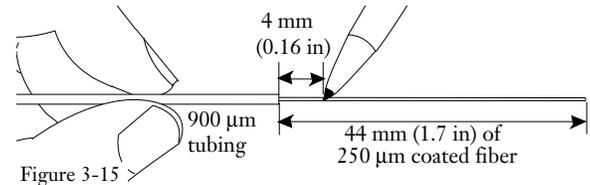

Figure 3-15
- Measure and mark the 250  $\mu\text{m}$ -coated fiber 4 mm from the end of the fan-out tube (Figure 3-15).